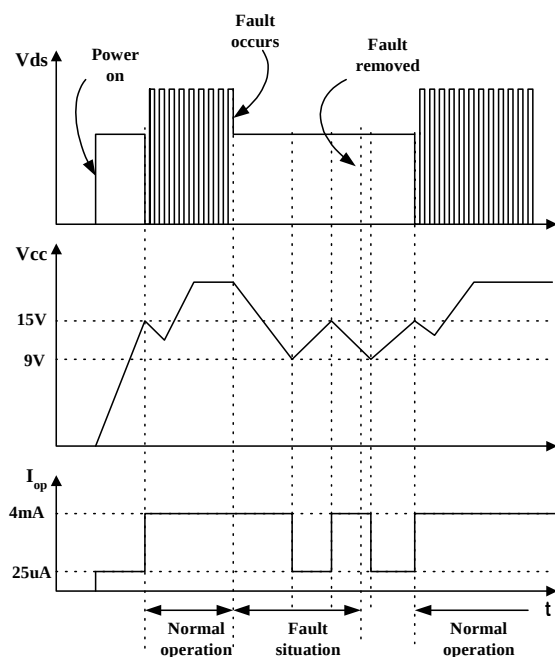

Figure 12. Auto restart mode protection
-Auto-restart mode protection: Once the fault condition is detected, switching is terminated and the Sense FET remains off. This causes Vcc to fall. When Vcc falls down to the under voltage lockout (UVLO) stop voltage of 9V, the protection is reset and FSCQ1265RT consumes only startup current (25uA). Then, Vcc capacitor is charged up, since the current supplied through the startup resistor is larger than the current that FPS consumes. When Vcc reaches the start voltage of 15V, FSCQ1265RT resumes its normal operation. If the fault condition is not removed, the SenseFET remains off and Vcc drops to stop voltage again. In this manner, the auto-restart can alternately enable and disable the switching of the power Sense FET until the fault condition is eliminated (see Figure 12).